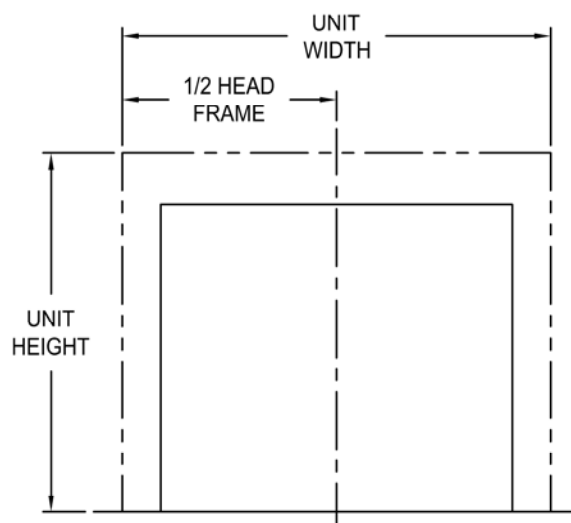
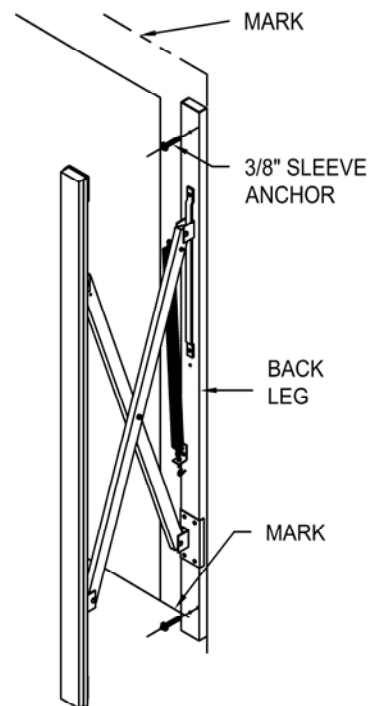

fig. 1
FIG. 6
Make sure there is enough space to install shelter (Figure 1 - Standard Unit).
- * Position vertical frames on wall so that the outside edge is flush with the vertical lines from fig. 1, and that bottom edge is flush with the floor (fig. 6).
- * Insert 3/8" sleeve anchors and tighten with 1/2" socket wrench (fig. 6).